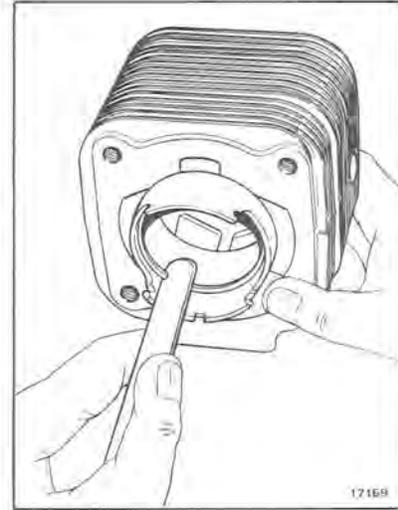

Figure 9-18
- c. Before installing new piston rings, check gap between ends of ring by placing ring in its respective cylinder bore (see Figure 9-18). Press ring down in bore slightly with bottom of piston to square it up. Discard and replace with new ring if gap is excessive (see Section 11, Specifications).